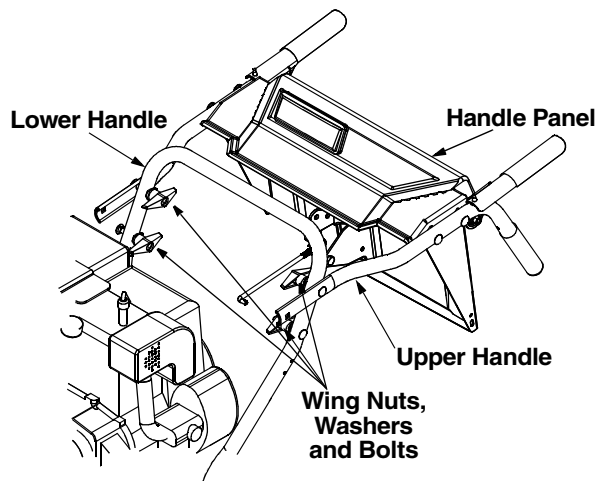

Figure 1
- Remove the **lower** two plastic wing nuts, cupped washers and carriage bolts from each side of the lower handle. See Figure 1.